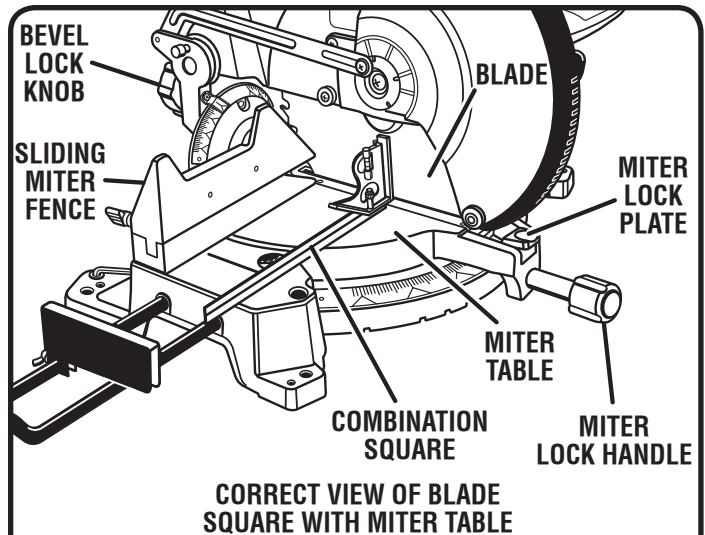

Fig. 29
See Figures 29 - 31.
- The edge of the square and the saw blade should be parallel as shown in figure 29.